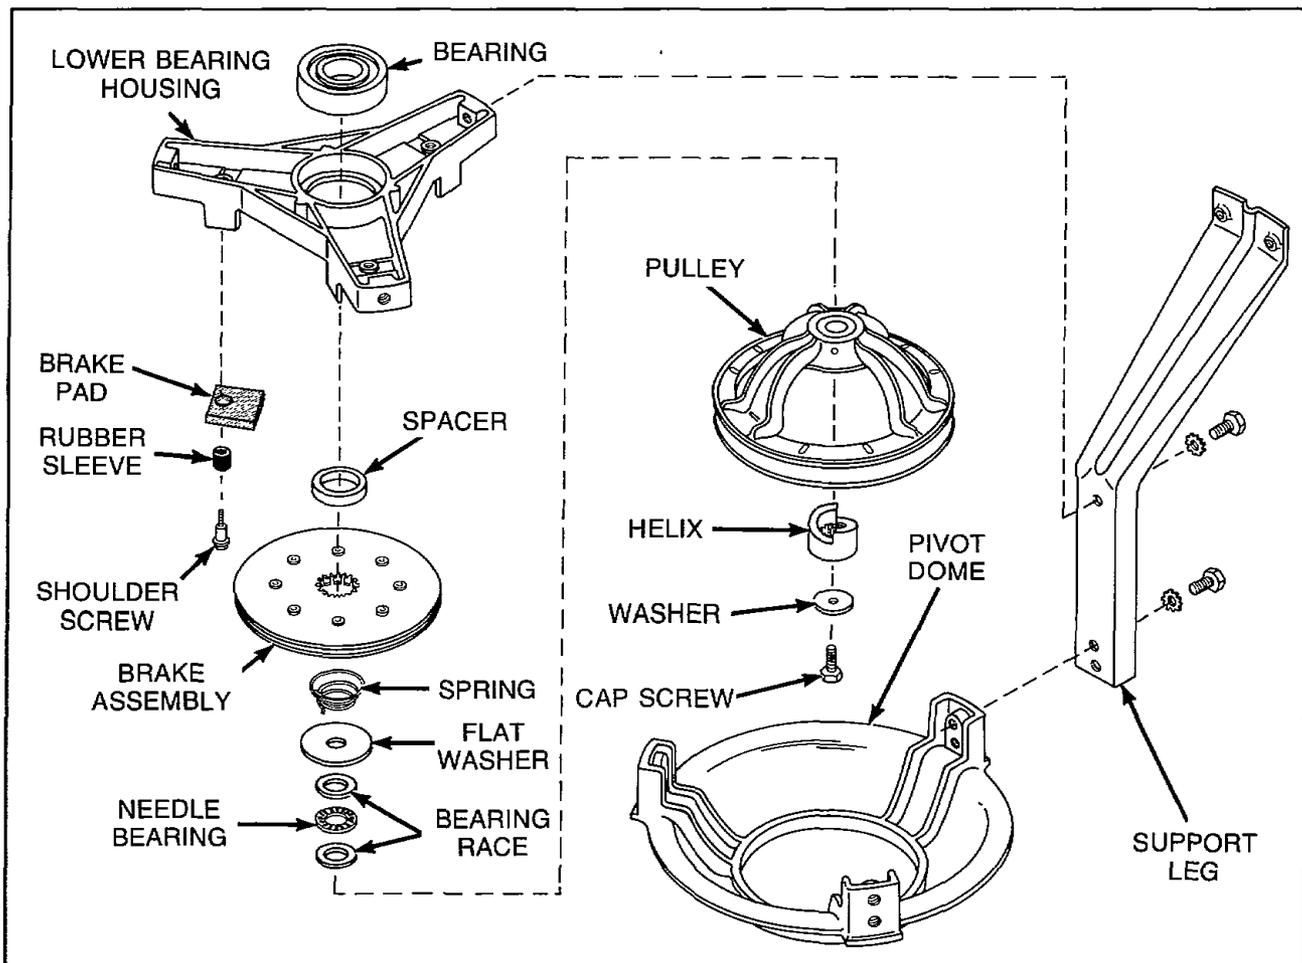

Figure 33
IMPORTANT: When reassembling, large flat washer, bearing race, needle bearing and bearing race must be in place, see *Figure 33* for assembly sequence.
- c. Remove three shoulder screws holding brake pads, rubber sleeves and brake assembly to lower bearing housing, *Figure 33*, then remove brake assembly, pads and spacer off bottom of transmission assembly.
NOTE: Refer to *Figure 33* for assembly sequence.
- o. Remove drive pulley from transmission shaft, *Figure 33*.
- p. Remove needle bearing, bearing races and large flat washer from transmission shaft, *Figure 33*.
- r. Remove three shoulder screws and rubber sleeves holding brake pads to lower bearing housing, *Figure 33*.
- t. Remove three cap screws and lockwashers holding lower bearing housing to tub support legs, *Figure 33*.